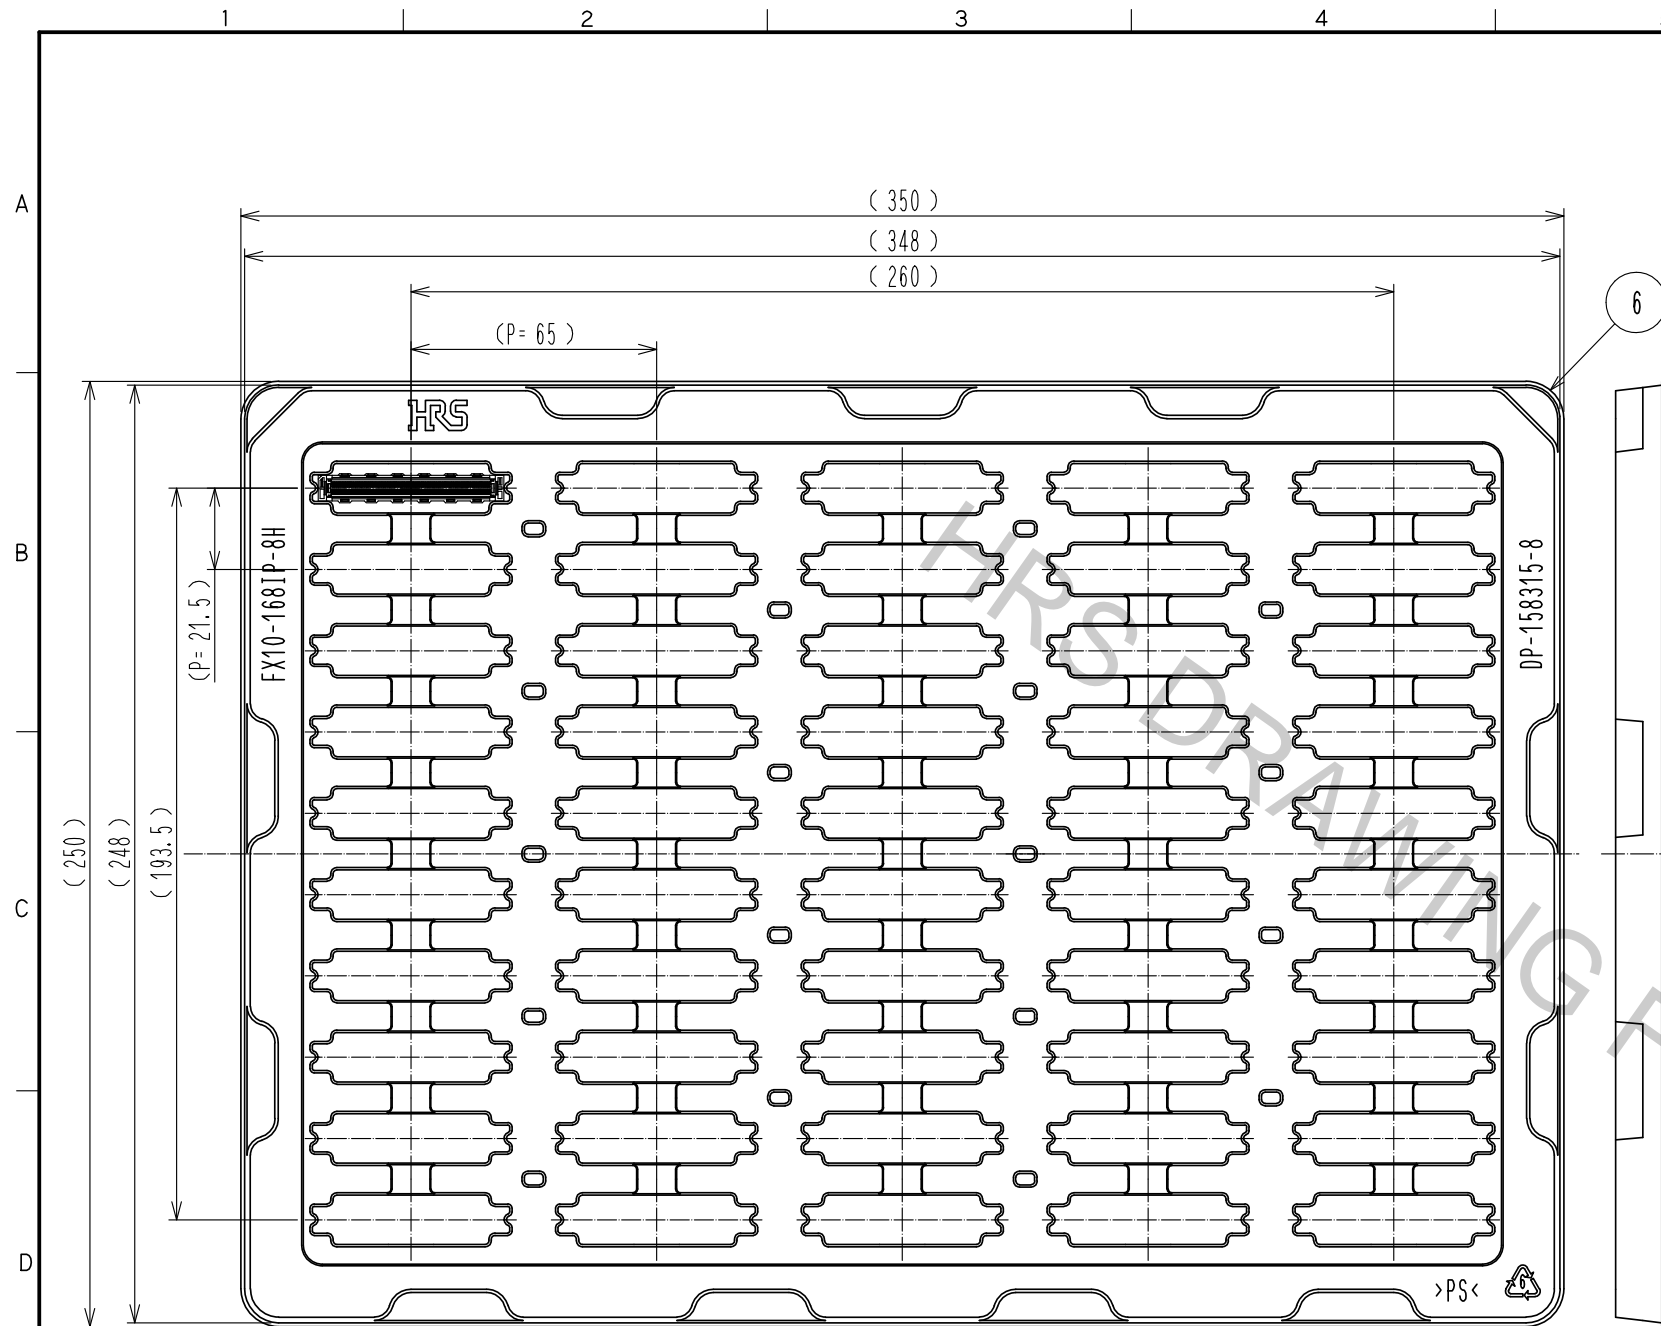

Fig.3 Drawing for packing (1:2) 6
- (1) The header connectors are decided by board distance (stacking height). Connector combination is shown in Table 1.
- (2) Fixed side (Black side) of interposer should be mated with header mounted on board α. Mating side (Gray side) should be mated with header mounted on board β.
- (3) Spacers are required to support the PWB's and protect the SMT solder joints. Recommended spacer height is shown in Table 1.
- (4) Pin configuration is shown in Table 2. This product consists of 40 Differential pairs, 4 Single-ended lines and 84 ground lines.
- (5) Lot No. shall be marked on the indicated position.
- (6) 50pcs of this product are packed in soft tray. See Fig.3 for details.